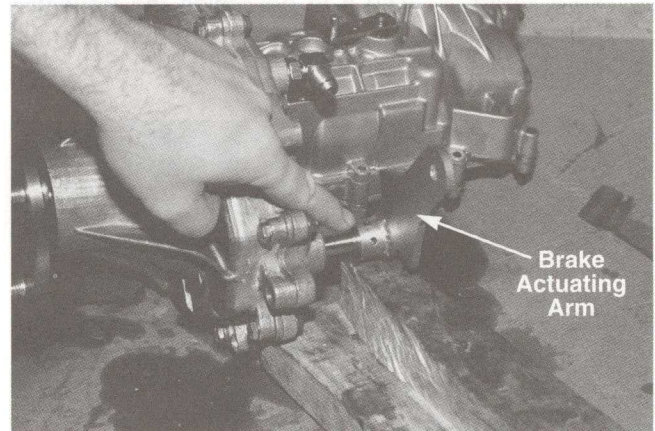

FIGURE 36.
36. Reinstall the brake actuating arm by properly bracing the shaft and driving the pin into the hole and through the shaft. See figure 36.